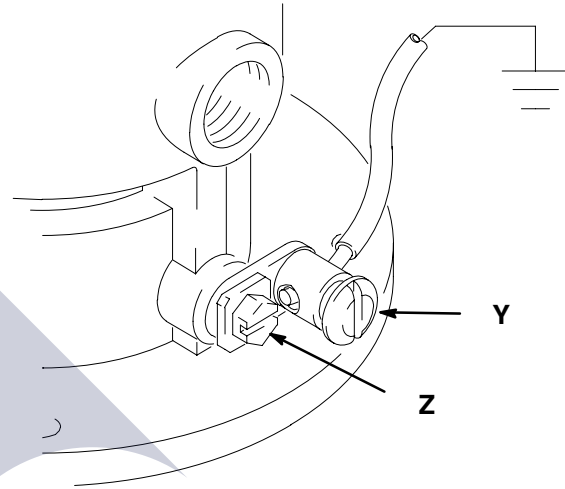

Fig. 2
- *Pump:* Use a ground wire and clamp as shown in Fig. 2.
To ground the pump, remove the ground screw (Z) and insert through the eye of the ring terminal at end of the ground wire (Y). Fasten the ground screw back onto the pump and tighten securely. Connect the other end of the ground wire to a true earth ground. See Fig. 2. *To order a ground wire and clamp, order Part No. 222011.*